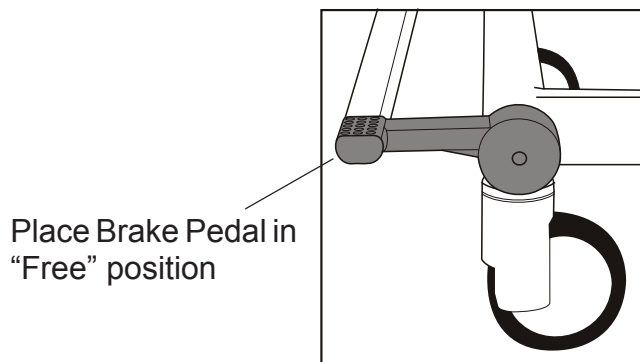

Fig. 2 - Free Position
2. Check that the brakes are unlocked and the brake pedal is in the "Free" position. (See Fig. 2)